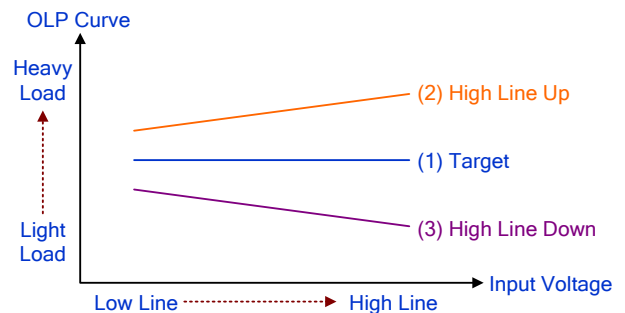

Figure 2. Curve Chart of OLP
In the beginning of propagation delay time compensation function setting, designers could set RPD = 470Ω, and CRC = 100pF. In Figure 2, the ideal output current should be the same as curve (1). No matter under high line or low line, the output current keeps the same. However, the propagation delay time varies OLP curve under different input voltages according to different designs of transformer inductance, parasitic capacitance of MOSFET, series resistance on the GATE of MOSFET. If the OLP curve is like curve (2), designers should increase the resistance of RPD; if the OLP curve is like curve (3), designers should increase the capacitance of CRC. Designers optimize the OLP curve through propagation delay time compensation to keep the same output current under different input voltages.